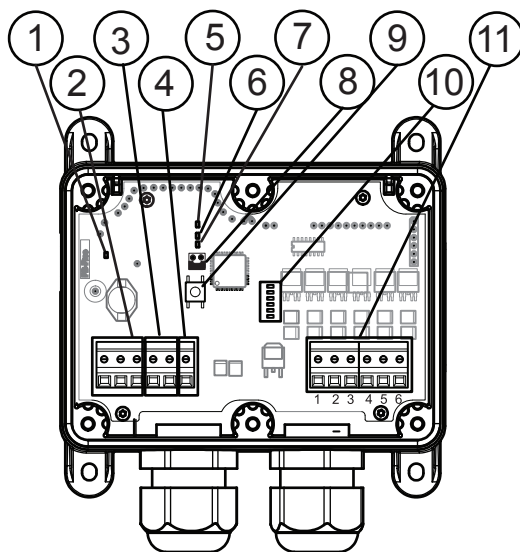
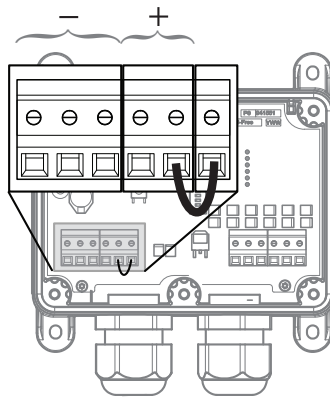

Figure 1. Sesam 800 RXM TL model indicators, connections and jumper.
Figure 2. Configuring internal supply of output power
The Sesam 800 RXM TL model has LED indicators that indicate different parameters (see Figure 1 for positions of the LEDs).
Connect 12/24 V DC (+) to position 3 and ground (-) to position 2 (see ③ and ② in Figure 1).
Connect the equipment to be controlled to output terminals 1-6 (see ⑪ in Figure 1) and equipment ground to position 2 (see ② in Figure 1). If the outputs are to be powered by the same 12/24 V DC supply as the receiver place a jumper between the Output Power Input and Positive (+) 12/24 V DC using a 0.75 mm² cable (see Figure 2).
2. Push the “Learn/Erase” button until LED 7 (see ⑦ in Figure 1) is ON.
4. Press button 1 (①) on the transmitter. LED 7 flashes 3 times if the Learn is successful.